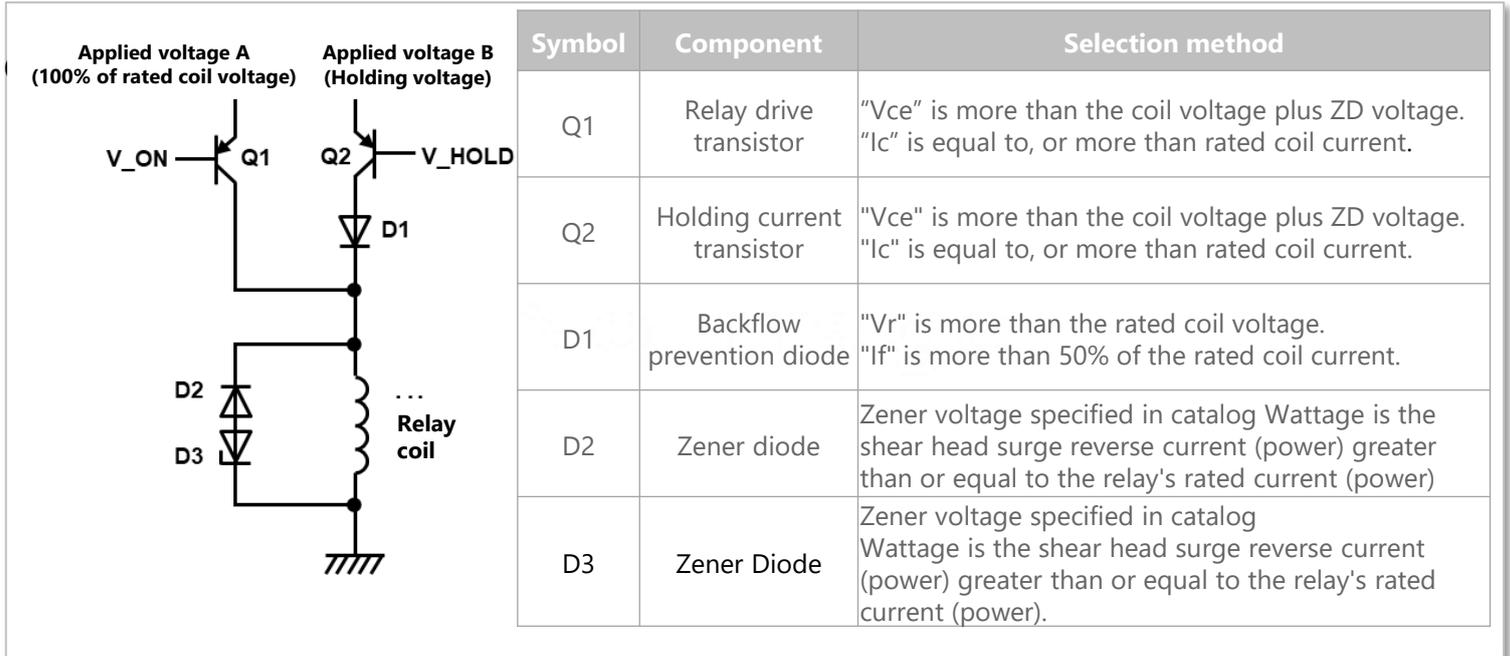

Figure 14: Recommended holding voltage circuit example with switch, and peripheral component selection method
If a low voltage (B) for holding the coil is available in addition to the rated coil voltage (A), it can be switched to the holding voltage by means of a switch. Switching to 50% voltage will reduce the current to 50%, thus greatly reducing the power consumption of the entire circuit to 1/4 of the rated value. (Figures 14 and 15)
In PWM control, a general PWM control circuit is not recommended to avoid power loss due to the Zener diode. A switch should be mounted in parallel with the Zener diode and bypassed during PWM control (Figure 14). When the relay is turned off, first turn off the switch to turn off the applied voltage of the drive circuit, then the relay is normally turned off by the Zener diode + diode. (Figure 16)